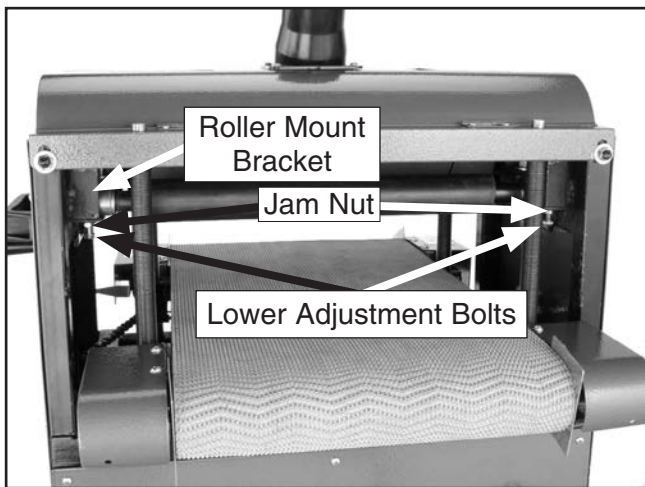

Figure 34. Pressure roller adjustment hex nuts.
The pressure rollers are factory set at 0.080" (2mm) below the bottom of the sanding drum and are fully adjustable either up/down with the four lower adjustment bolts (**Figure 34**). After the adjustment has been made, always lock the jam nuts against the bottom to prevent them from moving.
- Tighten the jam nuts (**Figure 34**) to lock the adjustment.